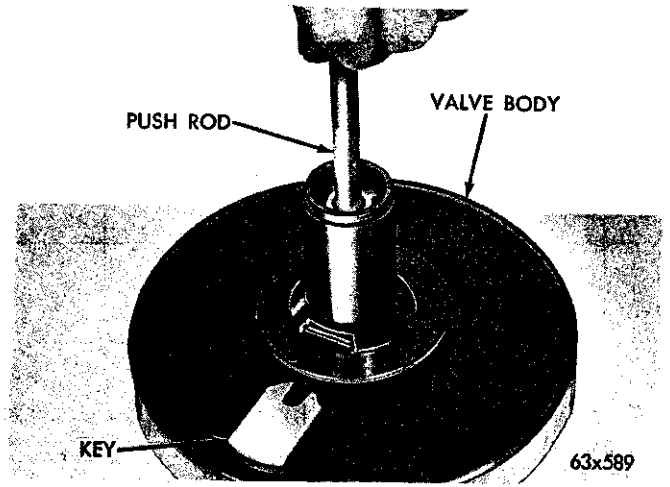

Fig. 20—Removing Push Rod Lock
(10) Holding the valve housing in a vertical position, press in on the push rod and permit the lock to disengage from the push rod and the valve assembly (Fig. 20).